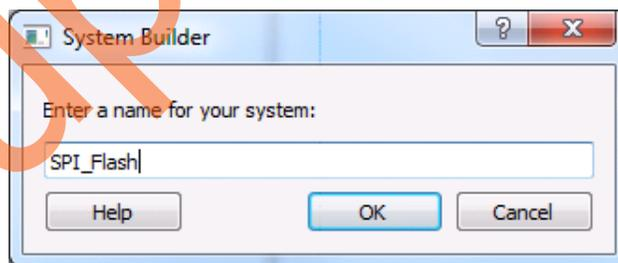

Figure 6 • System Builder Window
- Enter the name of the system as **SPI_Flash** and click **OK.**, as shown in Figure 6.